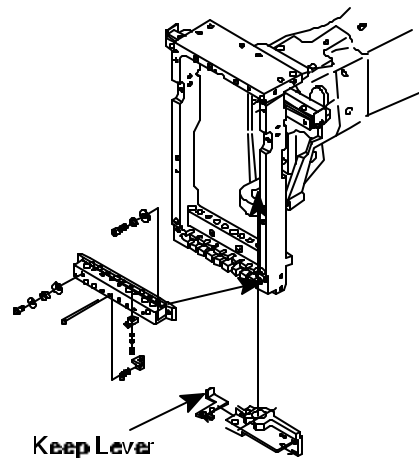

Figure 1
5. **Pull** Thread Keep Lever to **left** to disengage thread apron clamps. See *Figure 1*.